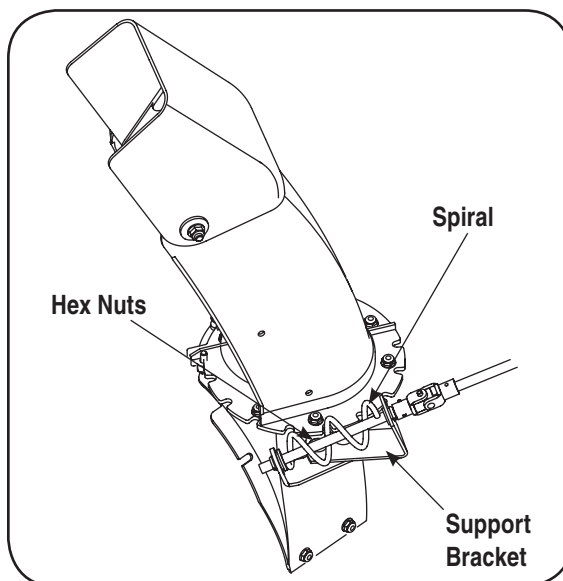

Figure 11-2
1. Loosen, but do NOT remove the two hex nuts which secure the support bracket to the snow thrower housing. See Figure 11-2.